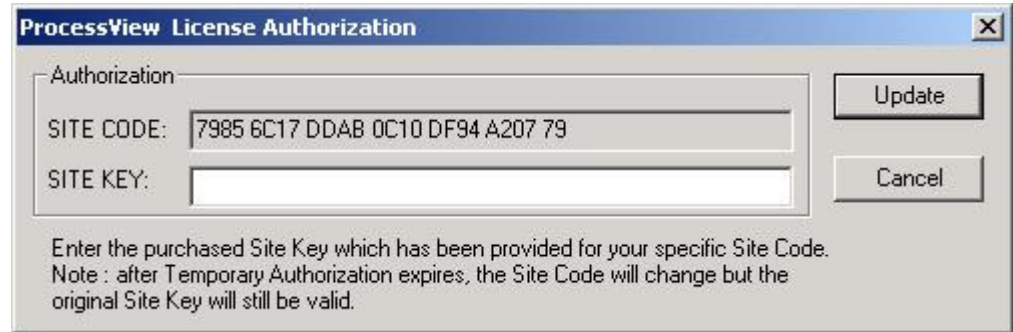

Figure 3.12. ProcessView License Authorization
14. Select **Authorize License** from the **Actions** menu, and enter the provided Site Key number in the **ProcessView License Authorization** dialog box to activate the license, as shown in the **Figure 3.12**.